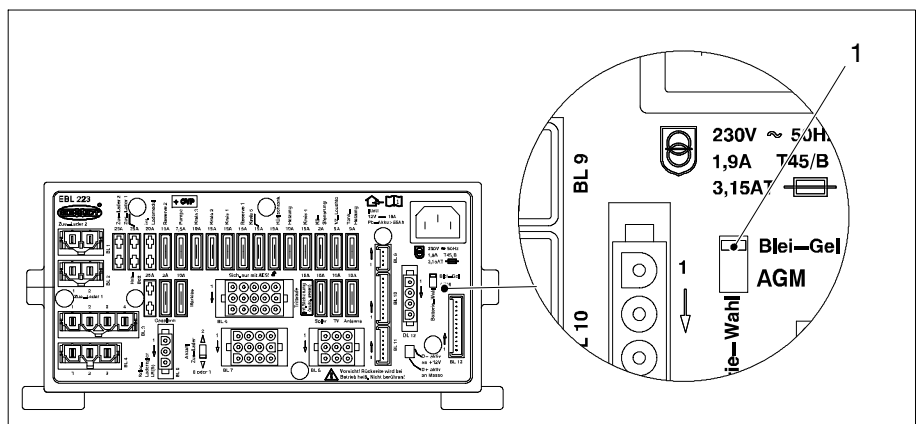

Fig. 1 Battery selector switch
- ▶ Move the battery selector switch (Fig. 1, Pos. 1) into the relevant position using a thin object (e. g. ball-point pen):